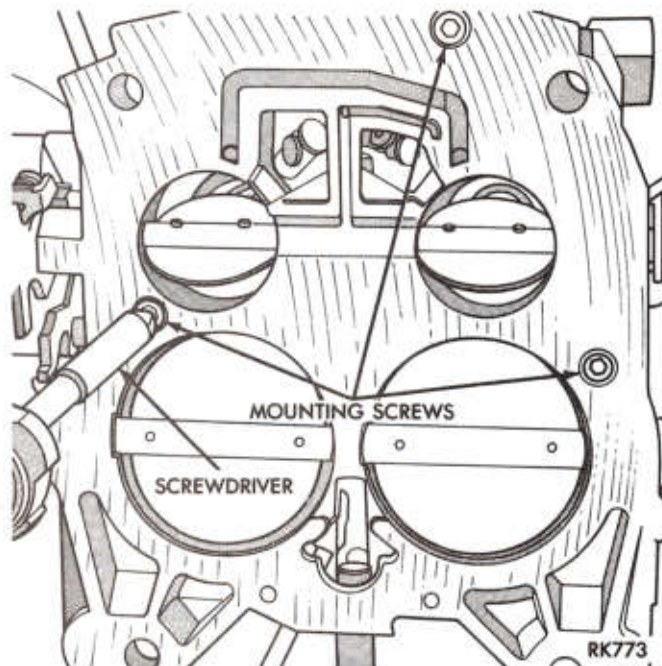

Fig. 24—Removing Throttle Body
(15) Remove three throttle body to float bowl attaching screws and remove throttle body assembly (Fig. 24).
(16) Remove and discard throttle body to bowl gasket.
(1) Install new float bowl to throttle body gasket over locating dowels on bottom of float bowl.
(2) Install throttle body over dowels on float bowl. Install three throttle body mounting screws and tighten securely (Fig. 24).
(3) Support carburetor with holding fixture C-3886 to avoid throttle plate damage.
(4) Install fuel inlet filter spring, a new filter assem-